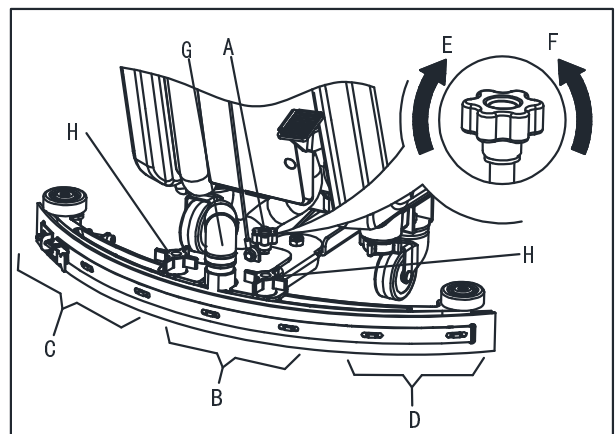

Figure 6
1. Install the squeegee and screw up the nut (H), then connect the vacuum hose (G) to the squeegee.
2. Adjust the squeegee by squeegee adjusting handle (A, Figure6).
- a) If there is gap between the ground and middle section of rear squeegee blade (B), adjust the knob (A) in counterclockwise direction (F) until all section of rear squeegee blade good contact with ground, the front blade touch the ground slightly.
- b) If there is gap between the ground and both end section of rear blade(C and D), adjust the knob (A) in clockwise direction (E) until all section of rear blade good contact with the ground, the front blade touch the ground slightly.